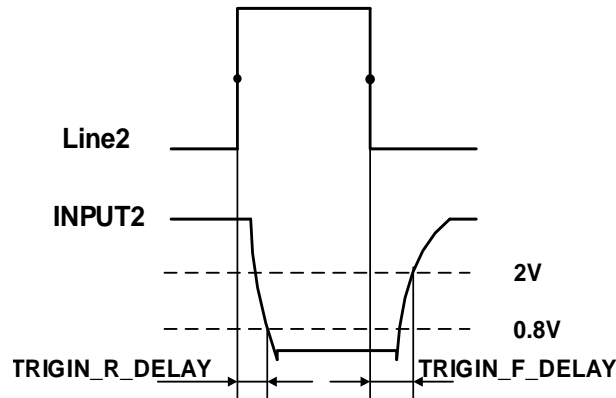

Figure 7-23 Parameter of Line2 input circuit
- Input rising time delay: <math>< 2\mu\text{s}</math> ( $0^{\circ}\text{C}\sim 45^{\circ}\text{C}</math>), parameter description as shown in Figure 7-23$
- Input falling time delay:  $<2\mu\text{s}$  ( $0^{\circ}\text{C}\sim 45^{\circ}\text{C}$ ), parameter description as shown in Figure 7-23